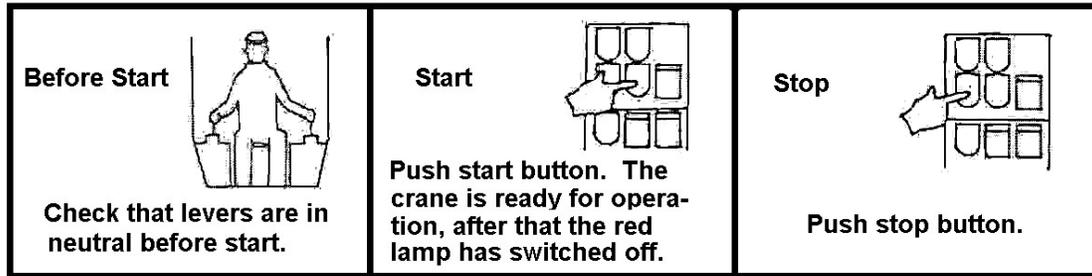

Figure 3-41
- c. Press the START button to start the Haggglunds Crane (see Figure 3-41).